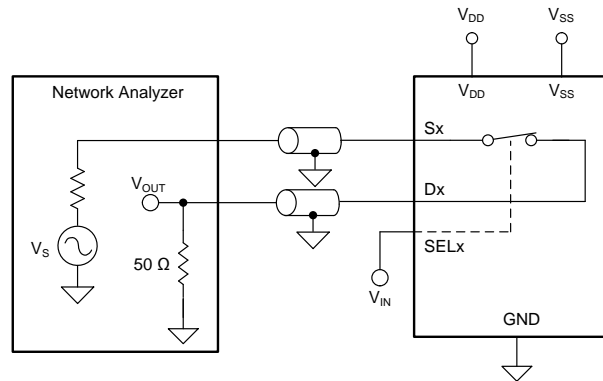

图 25. Bandwidth Measurement Setup
Bandwidth is defined as the range of frequencies that are attenuated by < 3 dB when the input is applied to the source pin (Sx) of an on-channel, and the output is measured at the drain pin (D) of the TMUX6121, TMUX6122, and TMUX6123. 图 25 shows the setup used to measure bandwidth of the switch. Use 公式 4 to compute the attenuation.